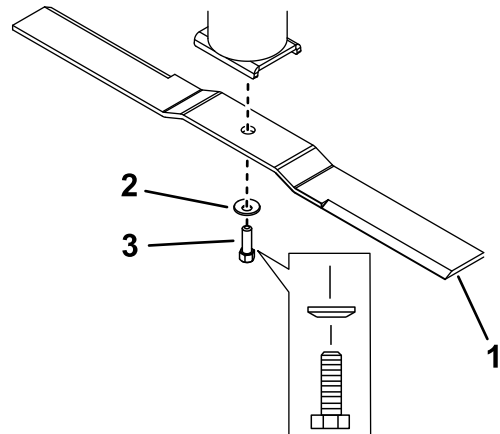

Figure 38
2. Remove the blade bolt, curved washer, and blade from the spindle cup assembly (Figure 38).
- Install the blade onto the spindle shaft (Figure 38).
- Install the curved washer (cupped side toward the blade) and blade bolt (Figure 38).